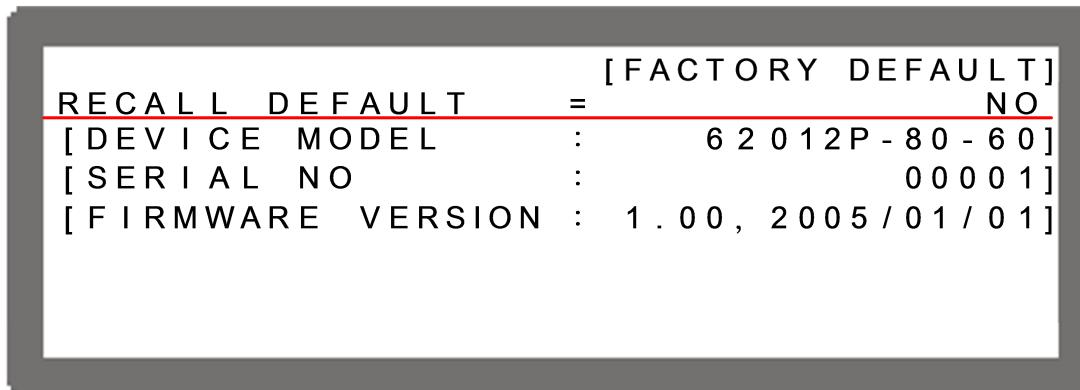

Figure 3-95
1. In the Config Setup page, press “” to go to the FACTORY SETTING screen (see Figure 3-95).